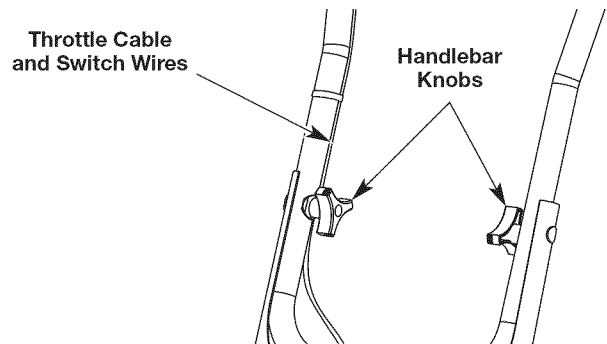

Fig. 3
NOTE: Take care not to pinch the throttle cable or switch wires when positioning the handlebars (Fig. 3).
5. Tighten the handlebar knob to secure the handlebar in place (Fig. 3).